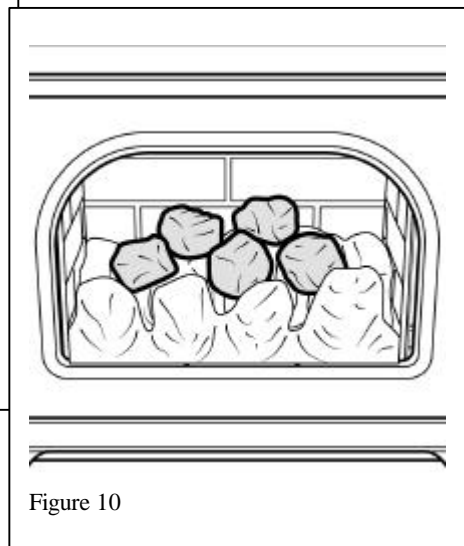

Figure 10
8. Place the 5 coal pieces on the base pieces (See figure 10)